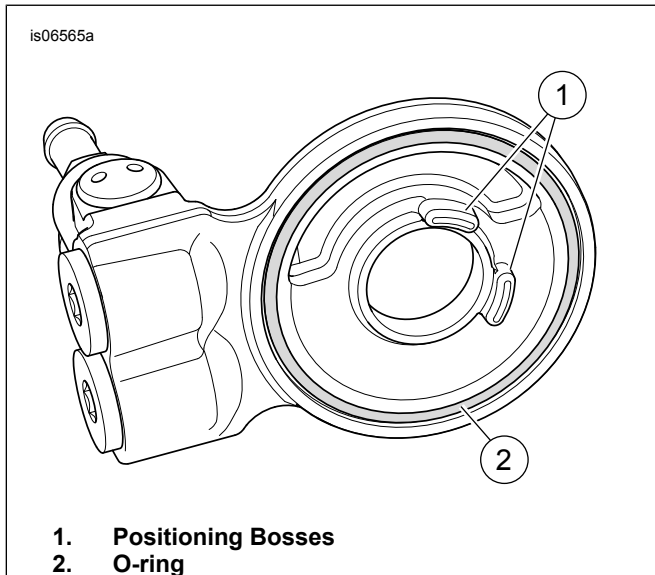

Figure 3. Oil Cooler Adapter
3. See Figure 3. Match the positioning bosses (1) on the oil cooler adapter to the oil filter adapter.